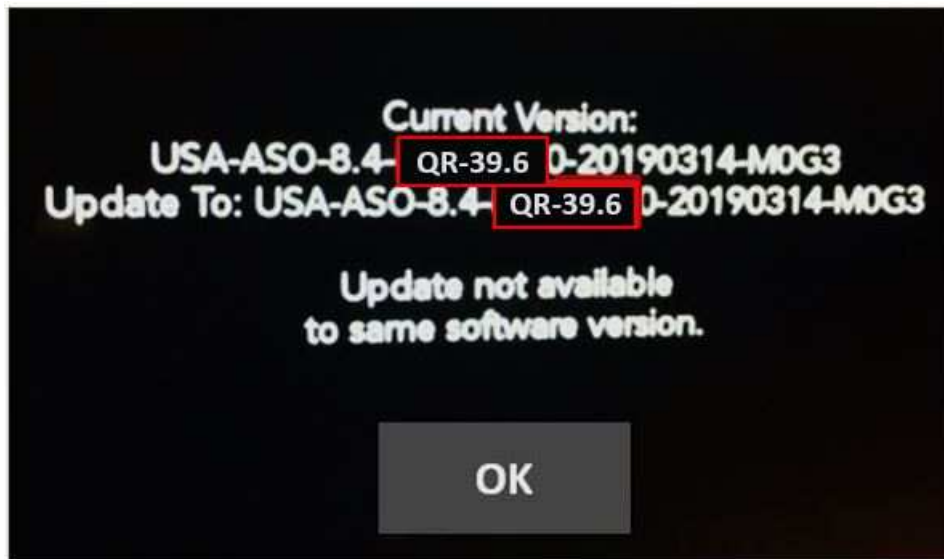

Fig. 6
12. If the radio software is already up to date, the screen in (Fig. 6) will be displayed. Press “OK” and remove the USB flash drive.